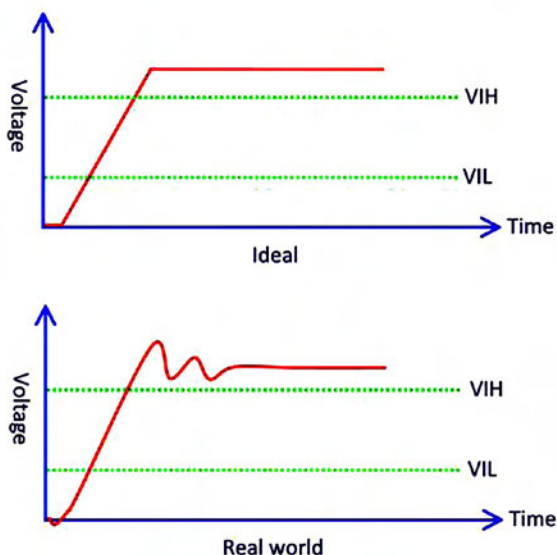
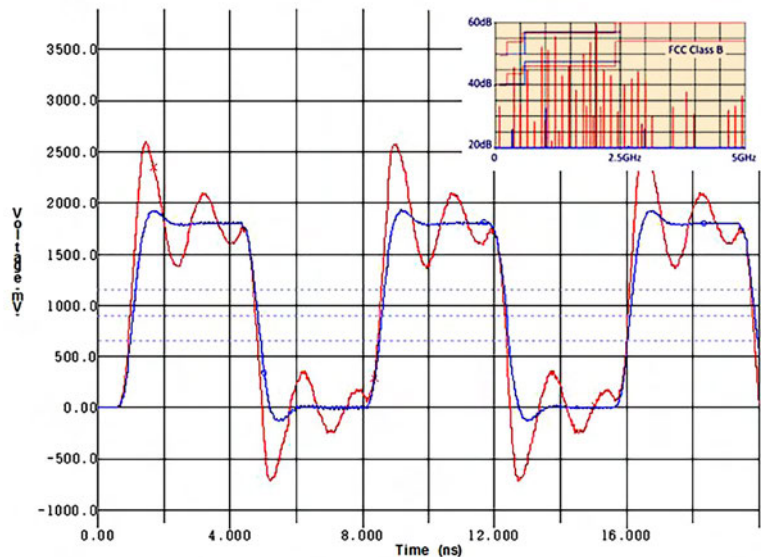

Figure 1: Ideal vs real-world rising edges.
Figure 5: Ringing is reduced dramatically by adding a series terminator (simulated in HyperLynx).
Ideally, square wave signals are just that—perfect square waves with an evenly, sloping rising and falling edge. However, in the real world, things are quite different. Figure 1, illustrates the rising edge of a square wave, in the ideal case (low frequency), compared to the real world (high frequency). The transmission line effects create under and overshoot resulting in ringing in the signal. If this ringing crosses the voltage input high threshold (VIH), at the receiver, then it may cause false triggering.
Revisiting the real-world rise time edge rate (Figure 1), by placing a series terminator (close to the source) the ringing is reduced dramatically. This will reduce crosstalk and also knock off the radiation. In Figure 5, the red waveform is the original, ringing signal, and the blue waveform demonstrates the damping effect of a series resistor taking us back to a near ideal waveform. The insert is the projected emissions in the frequency domain.
The next step is to determine the radius of spheres and base tile area for Huray model, as summarized in Figure 5. Because electro-deposited (ED) foil has a matte side and drum side,